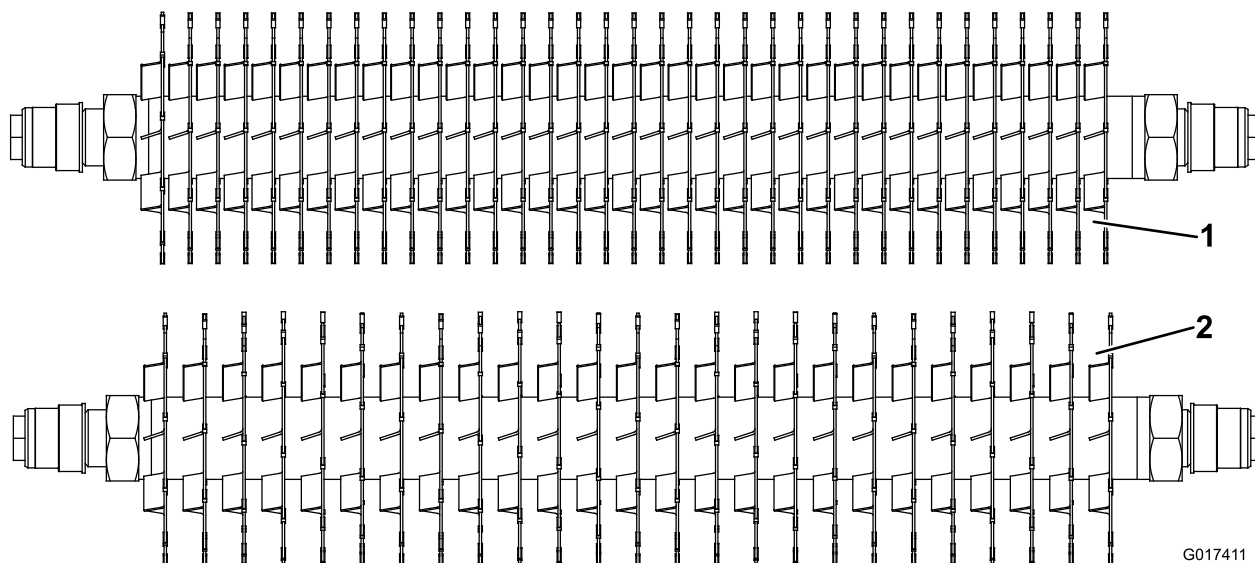

Figure 13
an additional (34) spacers, part no. 17-1580 and an additional (10) carbide blades, part no. 106-6355 or an additional (10) regular blades, part no. 17-1590 (Figure 13).